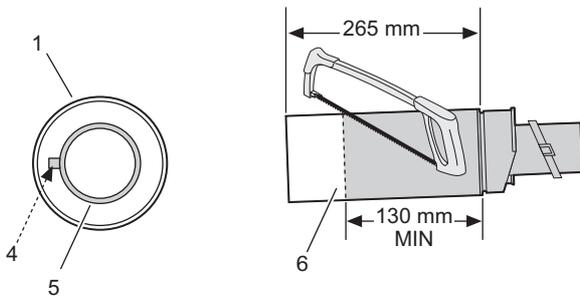

Fig. 9 Further reduction
- ▶ Mark the length required for the terminal as shown in figure 9 (min. 130mm) and cut square, taking care not to damage the tubes.